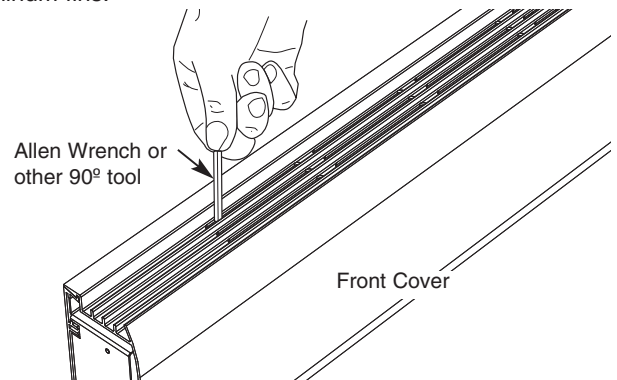

Fig. 7
2. To clean interior of heater will require the removal of the front cover. To remove the front cover, disengage the top rear snap-lock first. Use an "L" shaped tool, such as an Allen Wrench, to lift up under the webs between the back row of slots (See Fig. 7). Start at either end and lift up on the front cover until the tension in the cover pulls the cabinet apart. Continue moving along the length of the heater until the cover comes off.